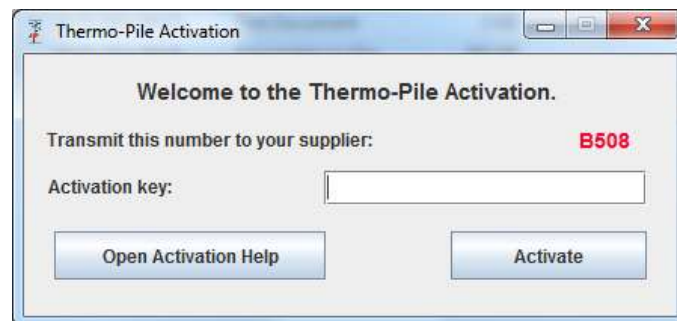

Fig 0. Activation window of *Thermo-Pile*.
1. Communicate the red characters (see figure 0) and the name of your company by email to lms@epfl.ch with the object "Thermo-Pile Activation".